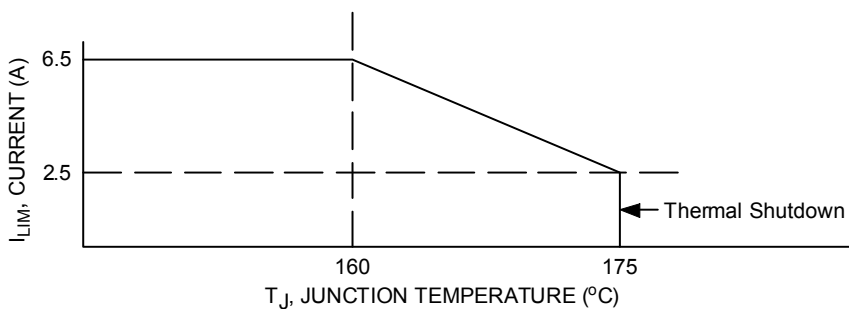
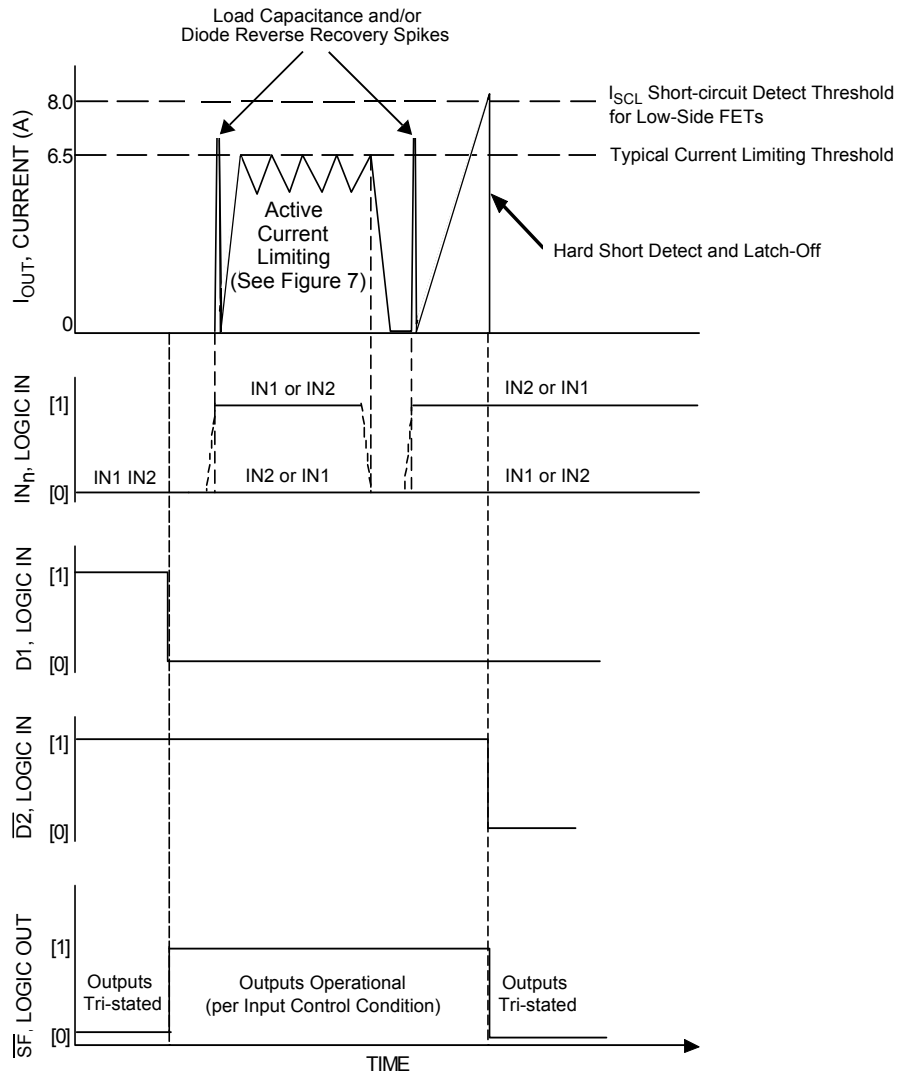

Figure 7. Active Current Limiting Versus Temperature (Typical)
Figure 8. Active Current Limiting Versus Time
26. Increasing currents will become limited at I_{LIM} . Hard shorts will breach the I_{SCH} or I_{SCL} limit, forcing the output into an immediate tri-state latch-OFF. See Figures 8 and 9, page 10. Active current limiting will cause junction temperatures to rise. A junction temperature above 160°C will cause the active current limiting to progressively “fold-back” (or decrease) to 2.5 A typical at 175°C where thermal latch-OFF will occur. See Figure 7, page 9.
The current limiting threshold value is dependent upon the device junction temperature. When $-40\text{ }^\circ\text{C} < T_J < 160\text{ }^\circ\text{C}$, I_{LIM} is between 5.2 A and 7.8 A. When T_J exceeds 160 $^\circ\text{C}$, the I_{LIM} current decreases linearly down to 2.5 A typical at 175 $^\circ\text{C}$. Above 175 $^\circ\text{C}$ the device overtemperature circuit detects T_{LIM} and overtemperature shutdown occurs (see Figure 7, page 9). This feature allows the device to remain